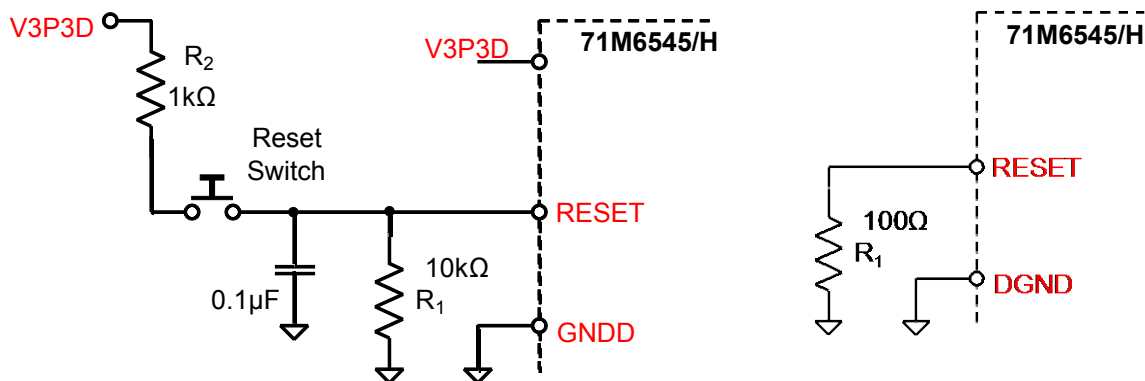

Figure 31: External Components for the RESET Pin: Push-Button (Left), Production Circuit (Right)
Even though a functional meter does not necessarily need a reset switch, it is useful to have a reset pushbutton for prototyping as shown in Figure 31, left side. The RESET signal may be sourced from V3P3SYS.
- ✓ For a production meter, the RESET pin should be protected by the external components shown in Figure 31, right side. R1 should be in the range of 100 $\Omega$  and mounted as closely as possible to the IC. Since the 71M6545/H generates its own power-on reset, a reset button or circuitry, as shown in Figure 31, is only required for test units and prototypes.